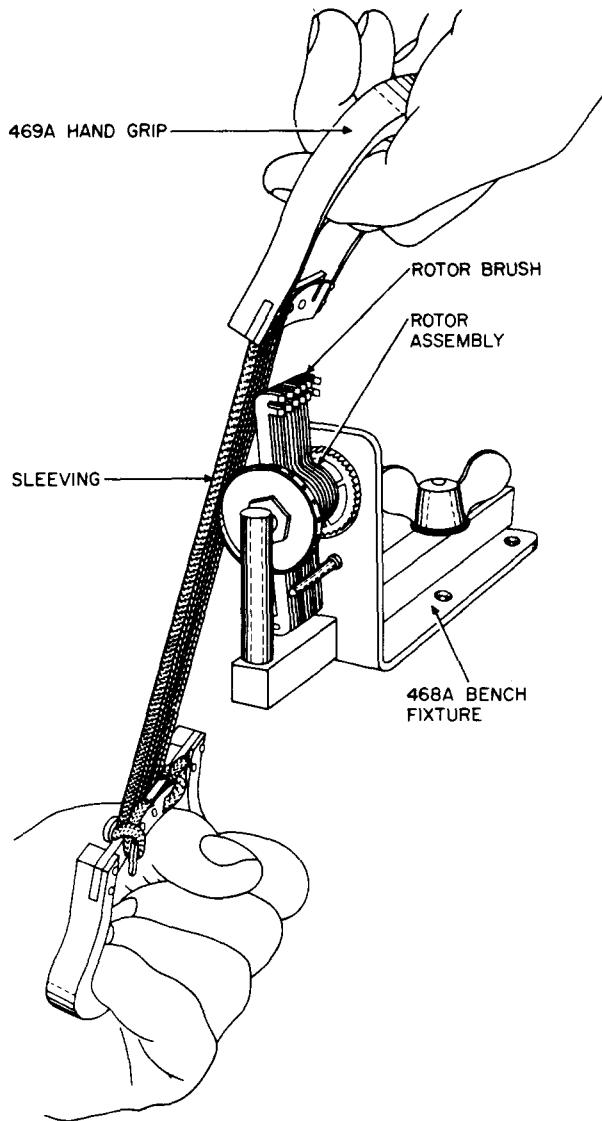

Fig. 10—Method of Inserting Sleeving Between Brushes of Rotor Assembly
3.24 Abrasive Cleaning: Load the 469A hand grips with No. 32 aloxite sleeving. Hold the right hand grip above and to one side of the other hand grip so that the strings are at an angle of approximately 15 degrees to the brushes, as shown in Fig. 10. After entering each string into its proper brush, pass it through the brush tips with a slight downward pressure and a pull to the right. Clean the contact surfaces by forcing the grips alternately up and down.
in Fig. 10. After entering each string into its proper brush, pass it through the brush tips with a slight downward pressure and a pull to the right. Treat the contact surfaces by forcing the grips alternately up and down.